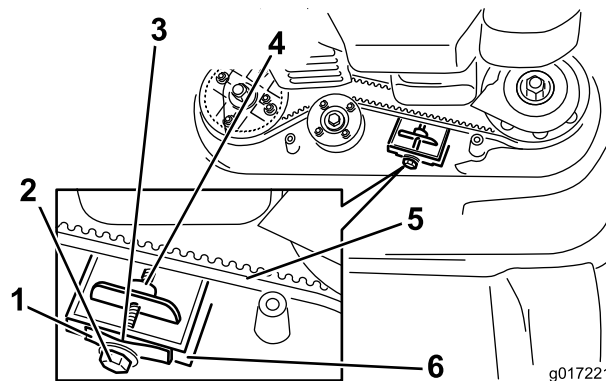

Figure 36
**Note:** If there is a visible gap between the gauge and the spring, tighten the adjusting bolt and the nut until the paper barely slides freely in and out of the gap (Figure 36).